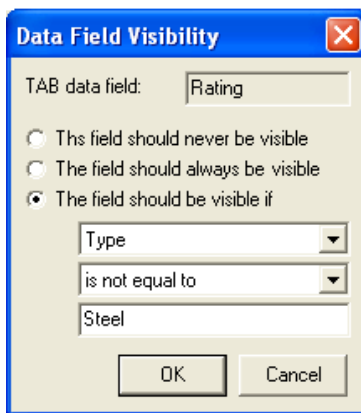

Figure 33 - Data field visibility window.
3.  A button will appear on the right hand side of the cell. Click that button to open the Data Field Visibility window (figure 33).